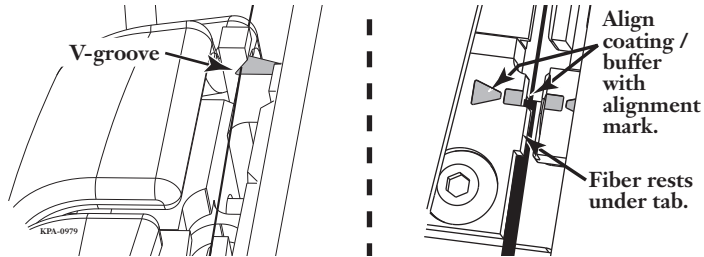

Figure 70 — Place Fiber in Slot in Cleaver
Step 3: Place the fiber in the slot (Figure 70) so that the: